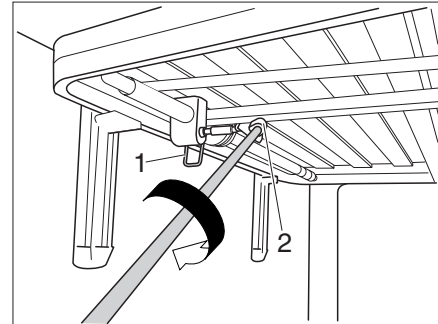

Fig. 145 Height adjustment
- Loosen the locking lever (Fig. 145,1). The bed can now be adjusted.
- Slide the crank into the magnetic square recess (Fig. 145,2). The height of the bed can now be changed.
- Pull the crank out of the square recess (Fig. 145,2) and keep it in the holder.